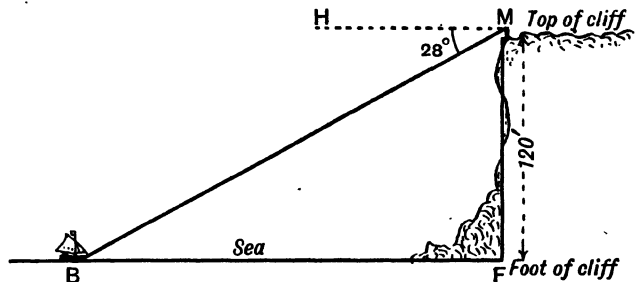

FIG. 88. DIAGRAM SHOWING ANGLE OF DEPRESSION OF A BOAT
3. A man, standing on the top of a cliff 120 ft. high, measures the angle of depression of a boat at sea and finds it to be 28° . How far is the boat from the foot of the cliff? (The man's eye is 5 ft. above the top of the cliff.) M is the man standing on top of the cliff. His eye is 125 ft. above the sea. MH is a horizontal line passing through the man's eye. B is the boat, Fig. 88.